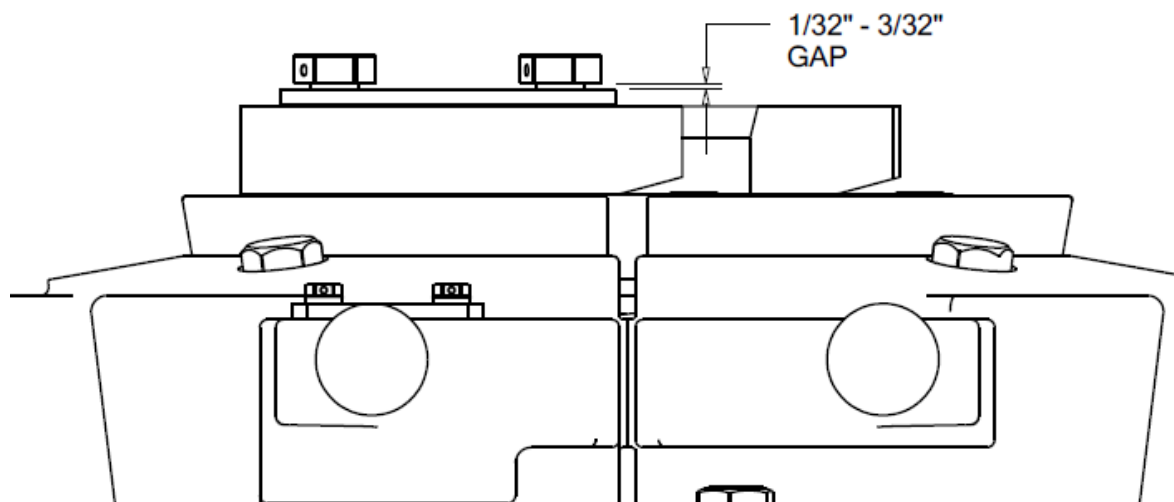

Figure 2
- ▶ Make sure the proper size of inserts are loaded into the slip segments, followed by the insert spacers, and then place an insert retainer plate into each slip. **(See figure 2)**
- ▶ Tighten all insert retainer screws. Then tighten the setting plate bolts to the torque value of a minimum of **18 ft-lb.** & maximum of **20 ft-lb.** ensuring there is a **1/32” to 3/32” gap** between the underside of the bolt head and the washer or setting plate retainer. (See Figure 2)